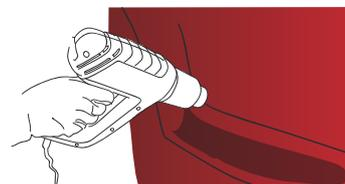

Figure 11
- › When finished, reheat all hollow areas that have undergone strong stretching to between 80 and 90 °C (176 and 194 °F) in order to definitely thermoform the product. (FIG. 11)